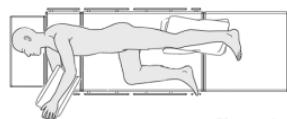

Figure 1
- Place the patient in the lateral decubitus (left side up) position (Figure 1).